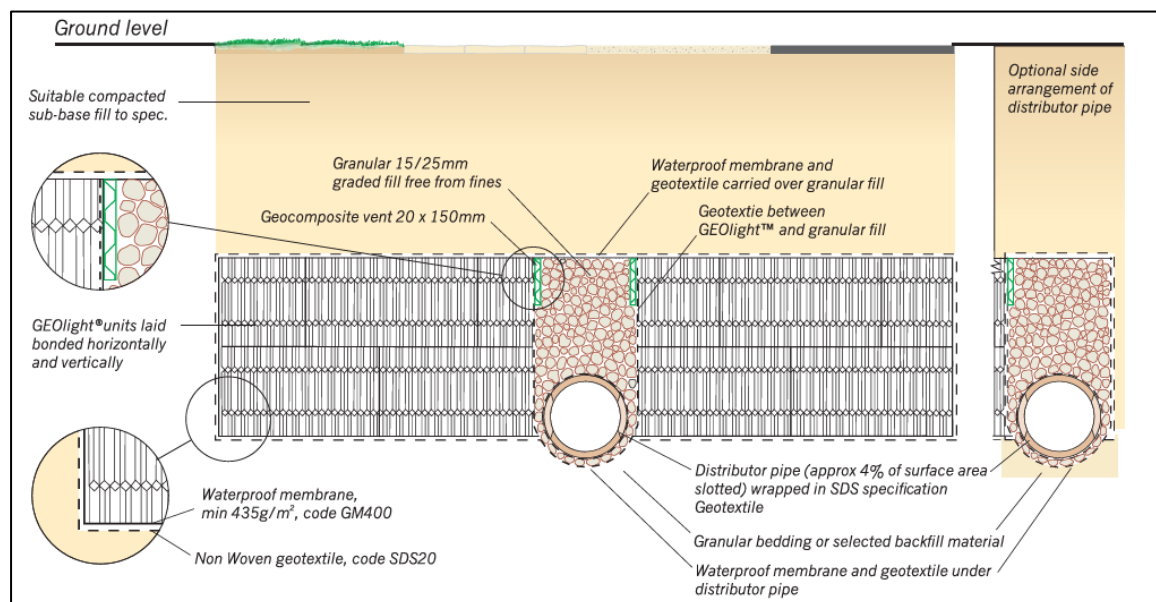

Figure 3: SDS GEOLight Cross Section
- 4.7 The SDS GEOLight system appears to have been substituted and installed in this area. This product typically requires a specific arrangement, including a perforated pipe running centrally through the attenuation crates, as illustrated in **Figure 3** below.